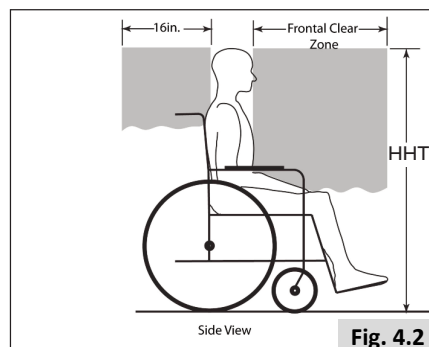

Fig. 4.2
4. The estimated seated height (HHT) from the ground or floor to the top of the wheelchair-seated occupant's head ranges from approximately 47-in (119 cm) for a small adult female to about 61-in (155 cm) for a tall adult male (Fig. 4.2).